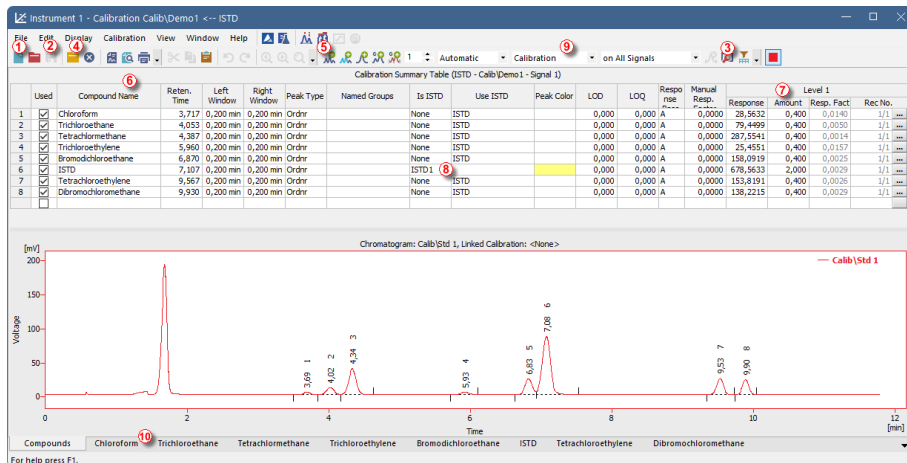

Fig. 17: The Calibration window - loaded standard
- You can change the integration of peaks using the interactive icons on the toolbars on the left side of the *Chromatogram* window ④ or directly in the *Integration* tab ⑤. Any changes made either way will change the **Integration table** and can be copied to the template method.
- To add color to a peak permanently, click the *View* button ⑥ in the right side of the **Results** tab. This will get you to the linked calibration file. There, in the *Calibration Summary Table*, find the *Peak Color* column (see **Fig. 17** on pg. 28.). In the row corresponding to the peak to be colored, select the desired color by clicking in the field and selecting the  icon. Pick the desired color and click *OK*. You will be asked to save the changes upon closing the *Calibration* window. Return to the *Chromatogram* window by using the  icon in the menu bar. The selected peak is now colored according to the color selected in the *Calibration* window.
- Use the *Open Standard*  icon (yellow) ④ to open the STD 1.PRM data file. The lower part of the *Calibration* window now displays the chromatogram of the calibration standard.
- Use the *Add All*  icon (blue) ⑤ to move all identified peaks to the Calibration Summary Table. The Table appears in the *Calibration* window, ready to be completed as shown on **Fig. 17** on pg. 28.
- As demonstrated in the Calibration Summary Table and the Chromatogram, individual peaks are now identified according to their retention times only. To label the peaks, click and edit the fields in the *Compound Name* column ⑥ to the names shown on **Fig. 17** on pg. 28. You may also set the color of a specific peak in the *Peak Color* column, for example, try to set the ISTD peak color to yellow. Note that the changes made will not immediately affect the current chromatogram.
- Fill the *Amount* column ⑦ with the concentration of the particular compounds. In this standard mixture, all compounds except for the peak number 6 (ISTD) have the amount of 0.4.
- Peak number 6 is marked as the ISTD peak. In the *Is ISTD* column change its type to ISTD1 ⑧ and then set its amount in the *Amount* column to 2.